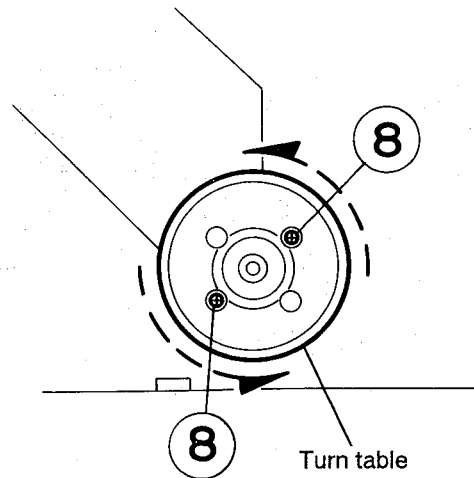

Fig. 4-25
2. While turning the turntable, remove the two screws (8) retaining the spindle motor and take out the spindle motor (See Fig. 4-25).